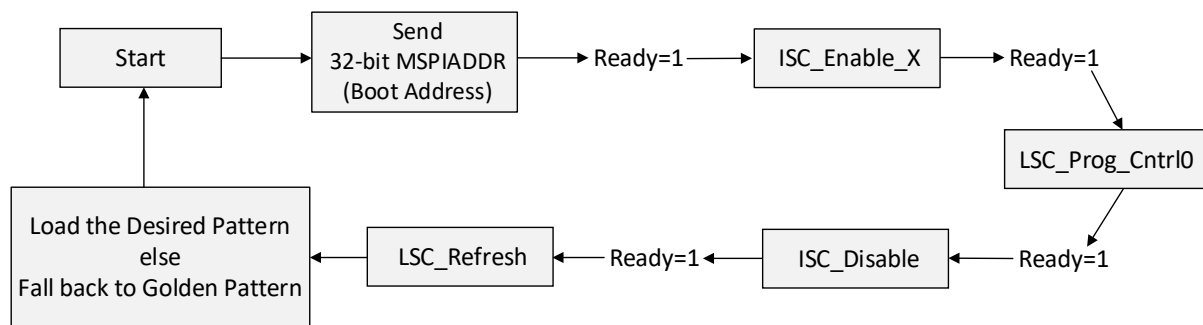

Figure 5.2. Implementation of Multi-Boot Feature Using MULTIBOOT Primitive Flow
- Lmmi host controller: This controller implements a state machine controller to send the necessary commands to the CONFIG_LMMI block, and sends the boot address to the MULTIBOOT primitive to boot the desired Alternate pattern stored in the internal or external SPI flash. The controller performs the following sequences. Refer to flow diagram below (Figure 5.2) for more details.